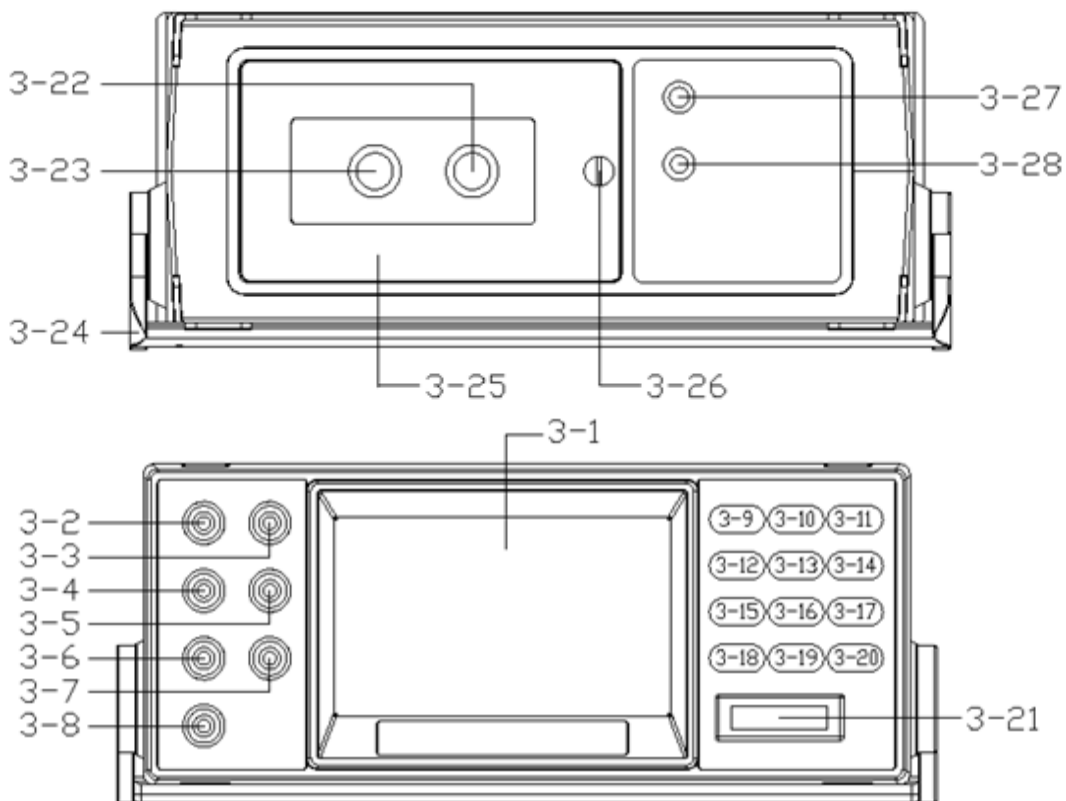

Fig. 1
- 1) : Connect BLACK test lead into " COM " terminal (3-4, Fig. 1).
- 2) : Connect RED test lead into " V " terminal (3-2, Fig. 1).
- 3) : Press the " Function Button " (3-12, Fig. 1) Select to the " DC mV " Function.
- 4) : Use the " AC/DC button " (3-18, Fig. 1) short press to select the " AC mV " or " DC mV " measurement.
- 3) : Press the " Function Button " (3-12, Fig. 1) Select to the " DC V " Function.
- 4) : Use the " AC/DC button " (3-18, Fig. 1) short press to select the " AC V " or " DC V " measurement.
- 6) : Under the operation of " auto range " mode, short press the " Range Button " (3-15, Fig.1) select to the Manual Range ,Manual Range can select 6,60,600, 1000V. LCD will show the " MANU " marker, and Under the manual range operation, press and hold the " Range Button " (3-15, Fig.1) > 2 seconds, will return to auto range operation.
- 2) : Connect RED test lead into " 10A " terminal (3-8, Fig. 1).
- 3) : Press the " Function Button " (3-12, Fig. 1) Select to the " DC A " Function.
- 4) : Use the " AC/DC button " (3-18, Fig. 1) short press to select the " AC A " or " DC A " measurement.
- 6) : Under the operation of " auto range " mode, short press the " Range Button " (3-15, Fig. 1) select to the Manual Range ,Manual Range can select 6A,10A. LCD will show the " MANU " marker, and Under the manual range operation, press and hold the " Range Button " (3-15, Fig.1) > 2 seconds, will return to auto range operation.
- 2) : Connect RED test lead into " mA/uA " terminal (3-6, Fig. 1).
- 3) : Press the " Function Button " (3-12, Fig. 1) Select to the " DC mA " Function.
- 4) : Use the " AC/DC button " (3-18, Fig. 1) short press to select the " AC mA " or " DC mA " measurement.
- 6) : Under the operation of " auto range " mode, short press the " Range Button " (3-15, Fig. 1) select to the Manual Range ,Manual Range can select 60mA, 600mA. LCD will show the " MANU " marker, and Under the manual range operation, press and hold the " Range Button " (3-15, Fig.1) > 2 seconds, will return to auto range operation.
- 3) : Press the " Function Button " (3-12, Fig. 1) Select to the " DC μ A " Function.
- 4) : Use the " AC/DC button " (3-18, Fig. 1) short press to select the " AC μ A " or " DC μ A " measurement .
- 6) : Under the operation of " auto range " mode, short press the " Range Button " (3-15, Fig.1) select to the Manual Range , Manual Range can select 600.0uA, 6000uA. LCD will show the " MANU " marker, and Under the manual range operation, press and hold the " Range Button " (3-15, Fig.1) > 2 seconds, will return to auto range operation.
- 2) : Connect RED test lead into " V/ Ω /Diode/Continuity " terminal (3-2, Fig. 1).
- 3) : Press the " Function Button " (3-12, Fig. 1) Select to the " Ω " Function.
- 6) : Under the operation of " auto range " mode, short press the " Range Button " (3-15, Fig.1) select to the Manual Range , Manual Range can select 600 Ω , 6K Ω , 60K Ω , 600K Ω , 6M Ω , 60M Ω . LCD will show the " MANU " marker, and Under the manual range operation, press and hold the " Range Button " (3-15, Fig.1) > 2 seconds, will return to auto range operation.
- 3) : Press the " Function Button " (3-12, Fig. 1) Select to the " Diode " Function.
- 3) : Press the " Function Button " (3-12, Fig. 1) Select to the " Continuity " Function.
- 2) : Connect RED test lead into " V/ Ω " terminal (3-2, Fig. 1).
- 3) : Press the " Function Button " (3-12, Fig. 1) Select to the " Hz " Function.
- 5) : Under the operation of " auto range " mode, short press the " Range Button " (3-15, Fig.1) select to the Manual Range ,Manual Range can select 60Hz, 600Hz, 6KHz, 60KHz, 600KHz, 6MHz, 60MHz. LCD will show the " MANU " marker, and Under the manual range operation, press and hold the " Range Button "(3-15, Fig.1) > 2 seconds, will return to auto range operation.
- 3) : Press the " Function Button " (3-12, Fig. 1) Select to the " Duty " Function.